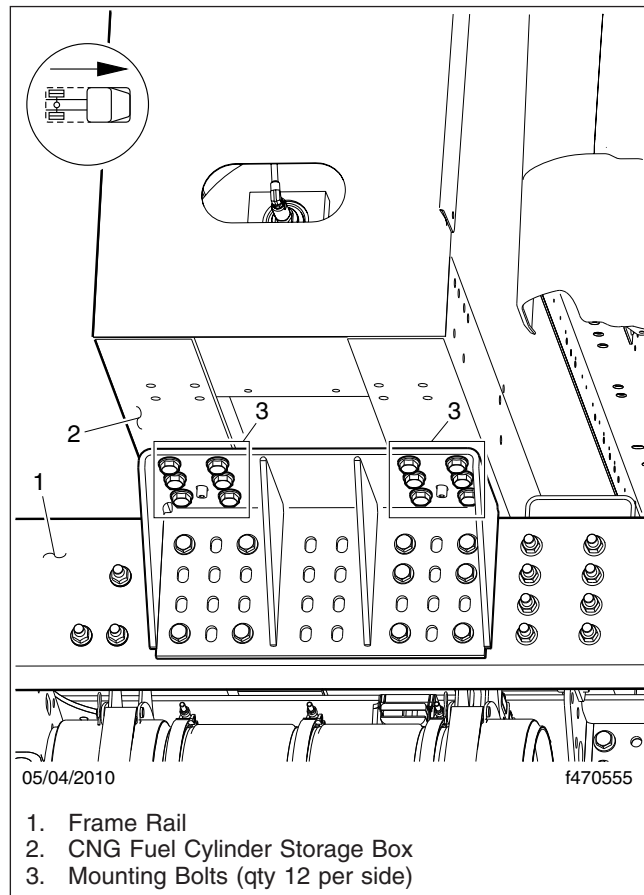

Fig. 10, Fuel Cylinder Storage Box Mounting Bracket (passenger side shown)
3. Ensure that the fuel cylinder storage box is secured to the frame. Inspect for any signs of looseness. If necessary, tighten the storage box mounting bolts 160 lbf·ft (217 N·m). See Fig. 10.
NOTE: During initial pre-delivery inspection (PDI), tighten the storage box mounting bolts (shown in Fig. 10) 180 lbf·ft (244 N·m).